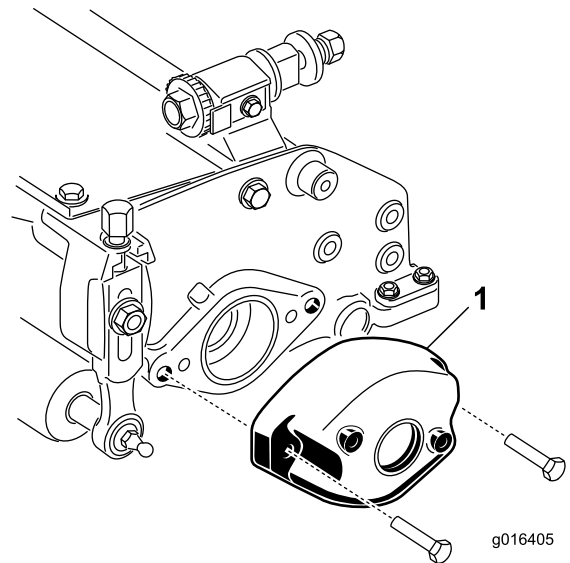

Figure 3
2. Remove the counterweight (Figure 3).